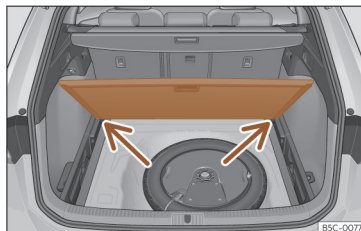

Fig. 124 Variable luggage compartment floor: inclined position.
- Rest the floor on its housings >>> **Fig. 124** (arrows).